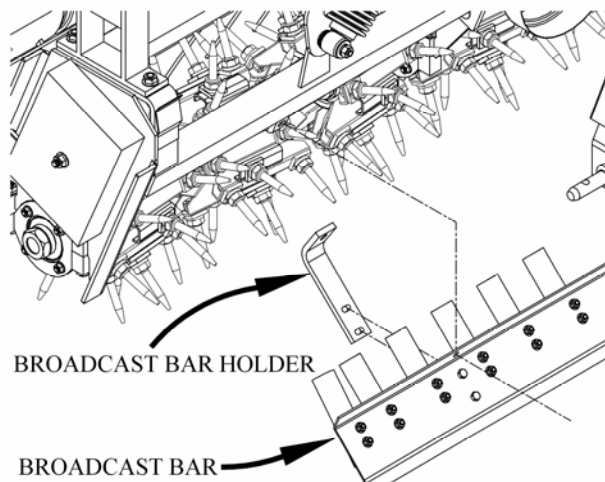

Figure 13. Broadcast Bar Transition
1. With the machine on the ground, remove the broadcast bar from the frame, and unbolt the broadcast bar holders (Figure 13).